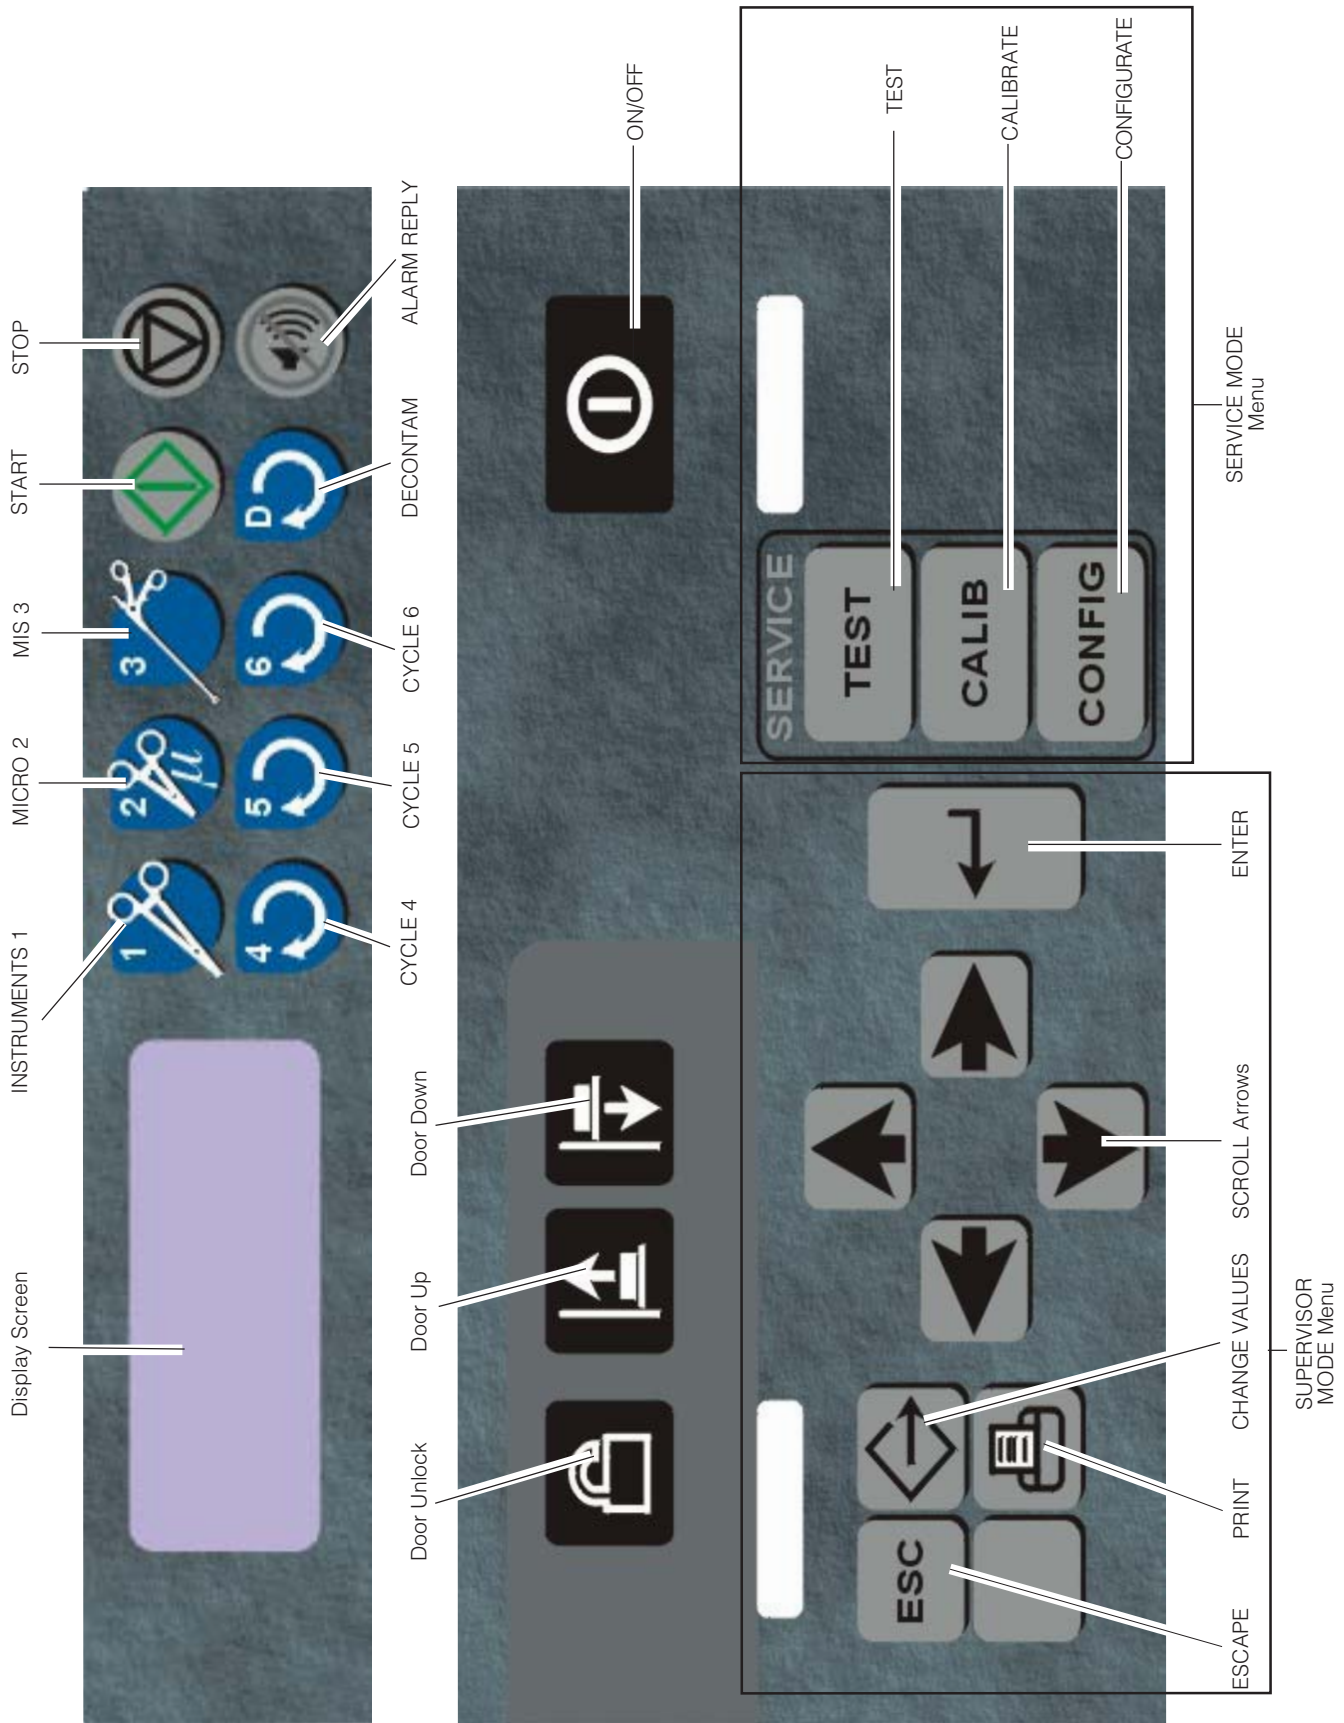

Figure 5-2. Control Panel
10. Press **ON/OFF** pushbutton to start the unit (see Figure 5-2). For 4 seconds, display shows: